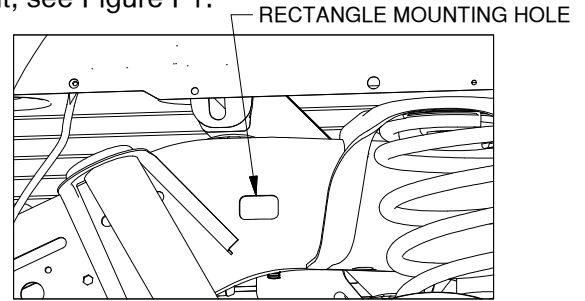

Figure F1: View looking into driver side wheel well.
1. **Prepare for hardware installation.** Each front side plate will install by mounting 1/2" carriage bolts into existing holes in the frame. Start by locating two 1/2" x 1-1/2" carriage bolts, two locking straps, the two rectangle frame spacers, and two bolt retainers. Identify the rectangle hole on the outside of the frame just in front of the axle where the hardware will mount, see Figure F1.